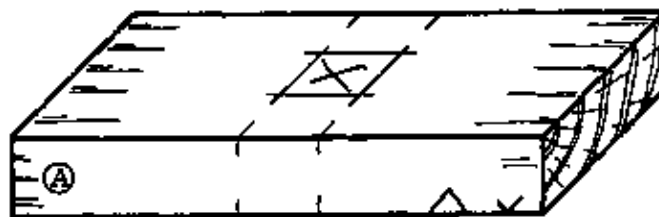

Fig. 5
– Use the same setting to mark both faces of piece A and use a try square and (already smoothed) piece B to mark the remaining two lines for the width of the mortice (Fig. 5). Mark the waste with a small cross.